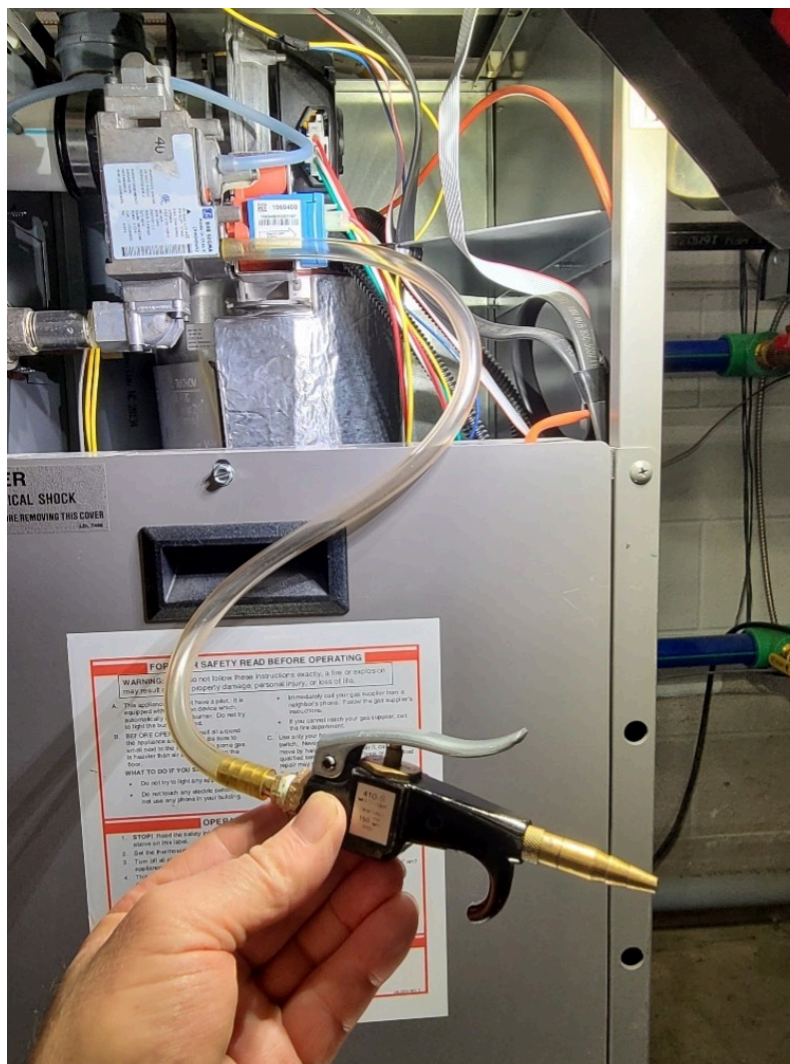

Figure 7. Purge hose with automatic shutoff release valve
The purging hose assembly must have an automatic shutoff release valve to ensure the gas outlet is monitored continuously and is not able to be left in the open position (Figure 7).
- Figure 7. “Purge hose with automatic shutoff release valve” by Rod Lidstone is licensed under a CC BY-NC-SA licence (<https://creativecommons.org/licenses/by-nc-sa/4.0/deed.en>).